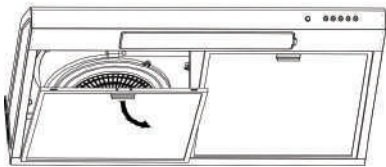
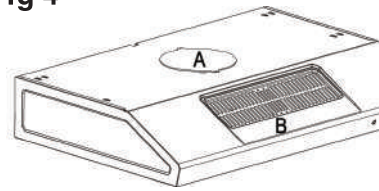
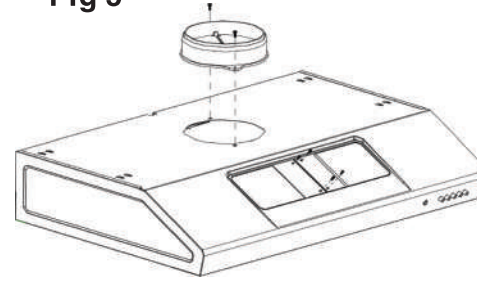

Fig 4
Fig 5
Fig 6
-Decide on the position of the hole for the air outlet: The hole may be in the wall or the ceiling, according to your requirements, but must be in vertical line with your hood. Bear in mind that the hood just expel air through the top opening A (Fig.4).
-Mounting the air outlet adapter to the top opening A by securing two screws. Bear in mind that the opening B(Fig.4) must be closed by two ventilation cover with 4 screws(Fig.5) then insert the nameplate into the ventilation covers(Fig.6).
-CHECK THAT THE FRONT OPENING B MUST BE CLOSED(Fig.5 and Fig.6)